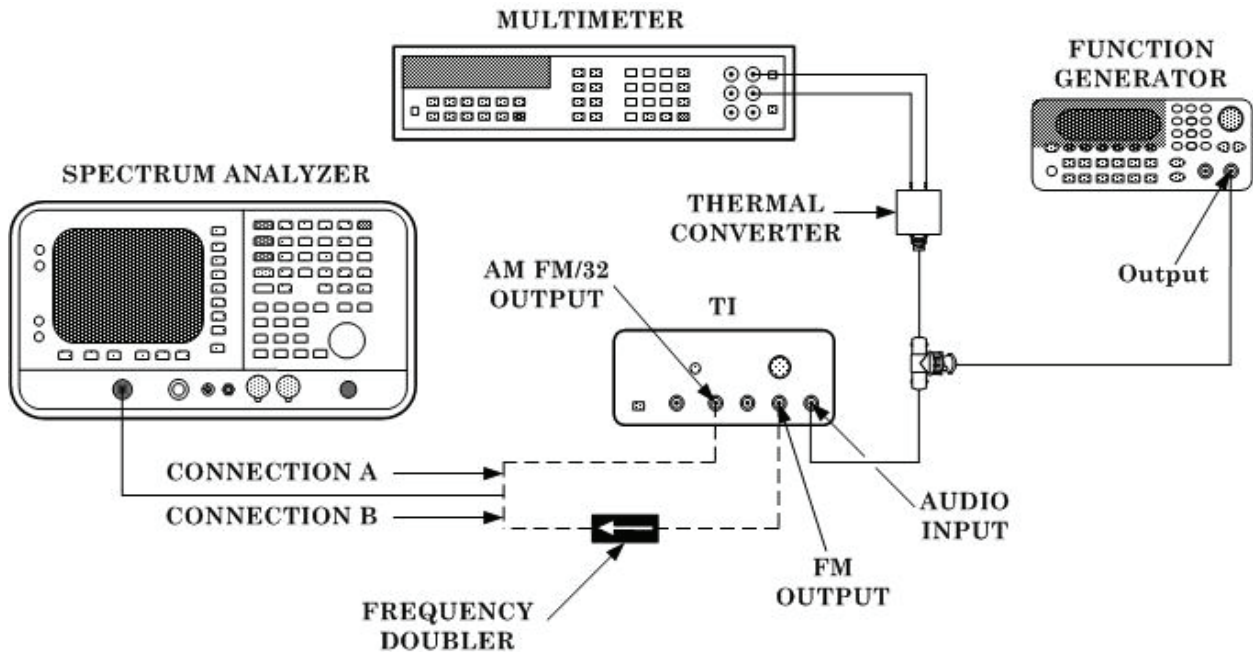

Figure 3. FM flatness - equipment setup.
(1) Connect equipment as shown in figure 3, CONNECTION A.
- (7) Note multimeter dc V indication.
- (8) Set function generator frequency to 640 kHz.
- (9) Connect equipment as shown in figure 3, CONNECTION B, using frequency doubler.